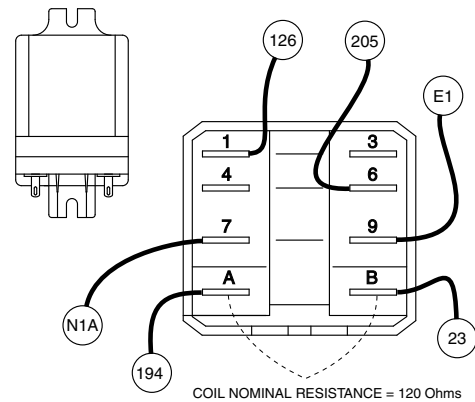

Figure 119. Vertical Mounted "Clear" Transfer Relay Test Points
1. Disconnect all wires from the TR1 relay to prevent interaction. See Figures 119, 120, and 121 for Transfer Relay wiring configurations.
3. With the wires disconnected, connect the VOM test leads across relay Terminals where Wires 194 and 23 were, (reference Figures 119, 120, and 121). Measure and record the resistance.